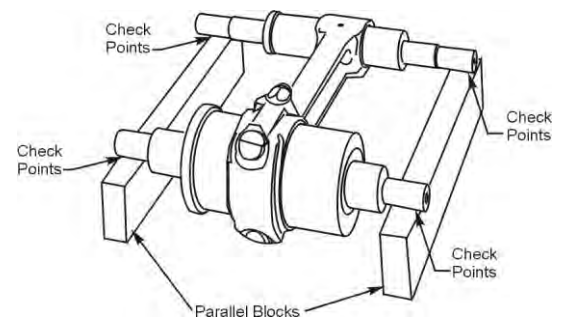

Figure 38
- L. Put the parallel blocks (Figure 38) of the Connecting Rod Parallelism and Squareness Gage on the surface plate.
- N. For the squareness check, measure the clearance at the four check points in Figure 38 where the arbors rest on the parallel blocks using a feeler gage. Record the measurement in the Connecting Rod Inspection Checklist earlier in this chapter